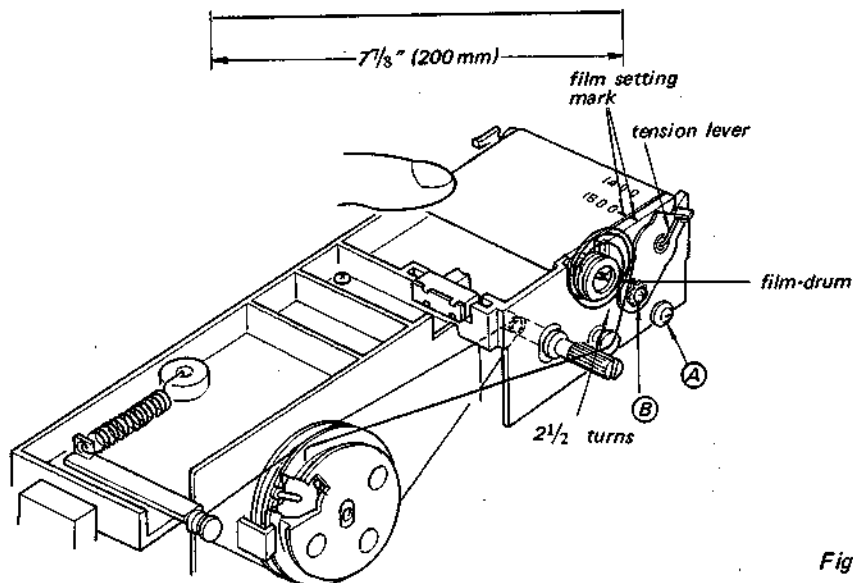

Fig. 1-10.
3. Be sure that the dial film is wound fully upward with the tension of spring. If not, rotate clockwise 3 or 4 turns the tension lever shown in Fig. 1-10.
6. Keep the film with your finger as shown in Fig. 1-10.